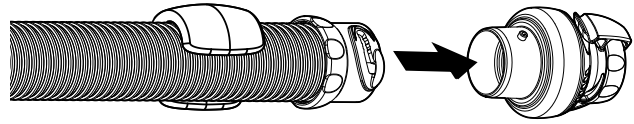

Figure 6
1. Attach the flow regulator valve to the leader hose. Leader hose is the hose section with foam float pre-attached (Figure 6).